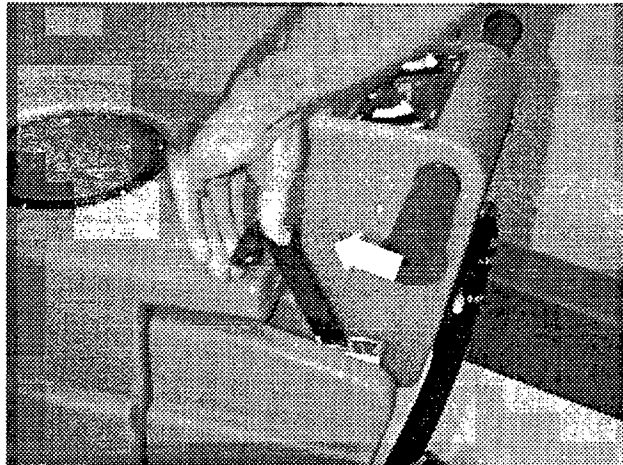

FIG. 12
3. Lower squeegee by releasing squeegee lift lever from the lock position. *(Figure 12)*